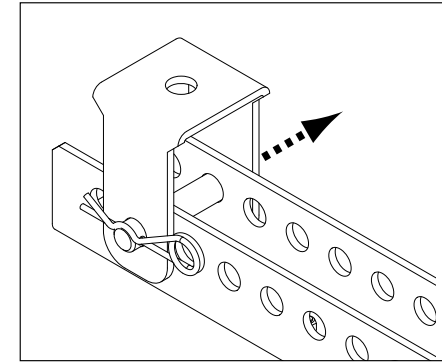
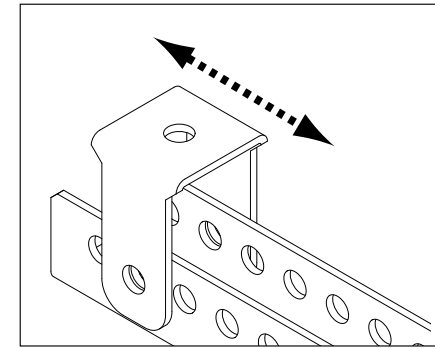

Fig. 3
Fig. 4
6. To move the carriage to another pair of holes, simply remove the cotter pin and bolt (Fig. 3) and slide it to the desired position (Fig. 4). Reinsert the bolt and cotter pin to secure the carriage. Make sure the cotter pin is properly seated.